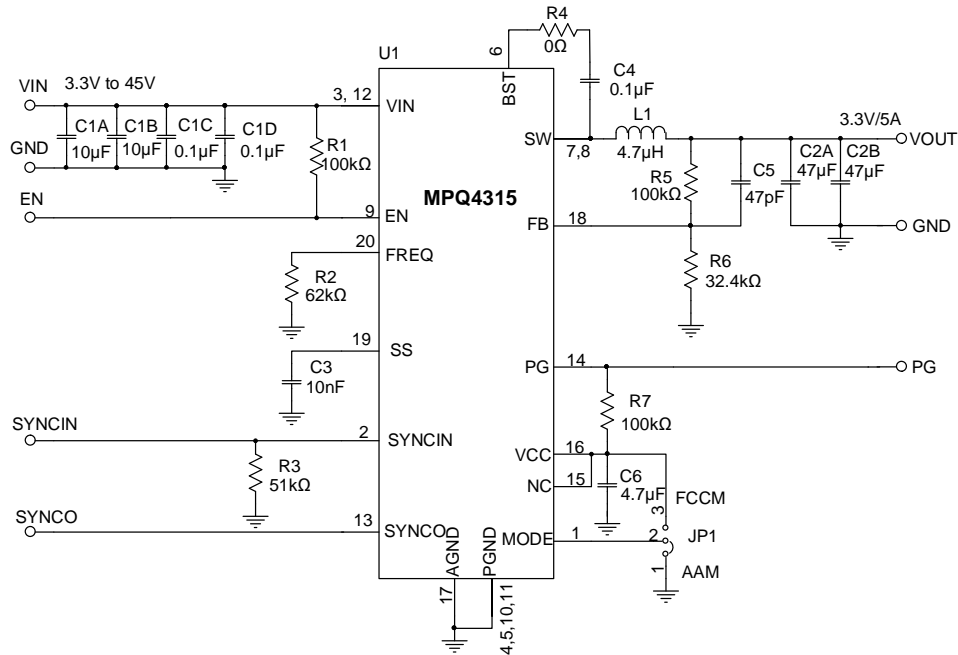

Figure 11: Typical Application Circuit ($V_{OUT} = 3.3V$, $f_{sw} = 470kHz$)
- 9) The recommended PCB layout is based on Figure 11.